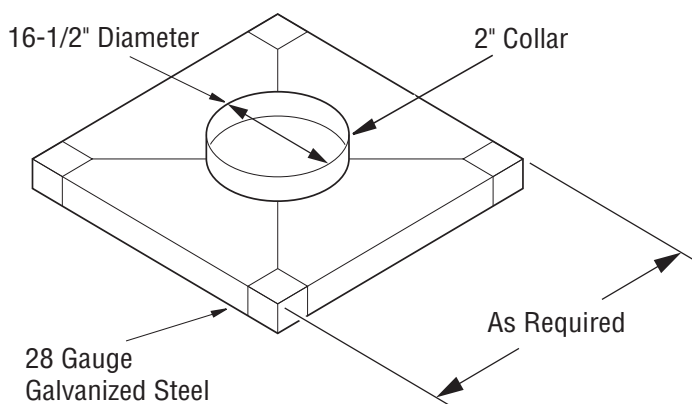

Figure 24 - Constructing Chase Top Flashing
3. Fabricate a flashing having a 16-1/2" diameter hole centered over chimney end with a 2" collar around hole (see Figure 24). Attach noncombustible spacers at each corner and place flashing over chase.